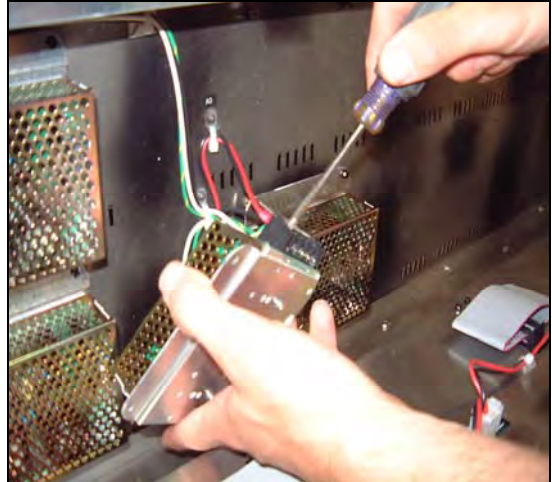

Figure 33: Power Supply Cable Connections
3. Disconnect the power cables as shown in **Figure 33**.